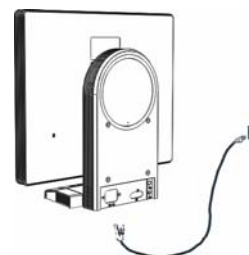

Figure 1-4
1. Connect the power cord to the LCD Monitor.(See Fig. 1-4)